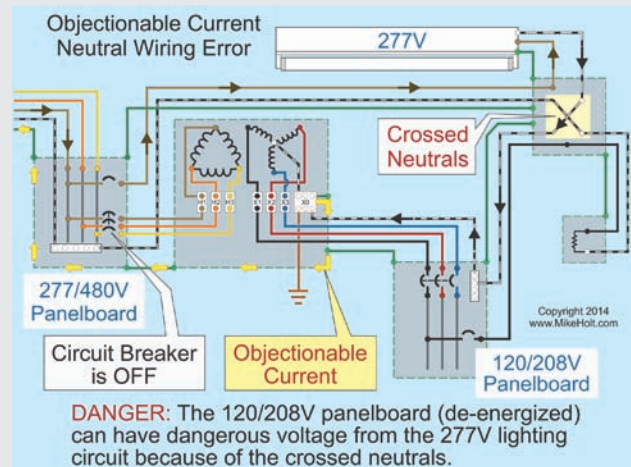

Figure 250-28
**Wiring Errors.** Objectionable neutral current will flow on metal parts and equipment grounding conductors when the neutral conductor from one system is used as the neutral conductor for a different system. Figure 250-28